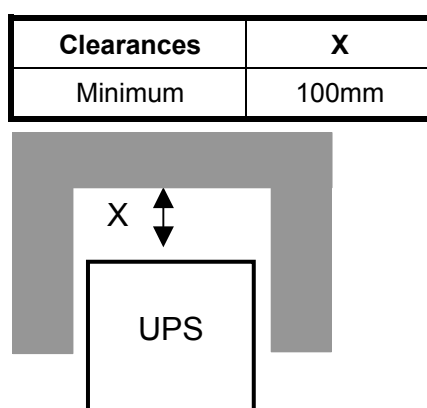

Figure 3.1: UPS space recommendation
- Minimum 10cm rear space is recommended for proper cooling (see Figure 3.1 and 3.2);